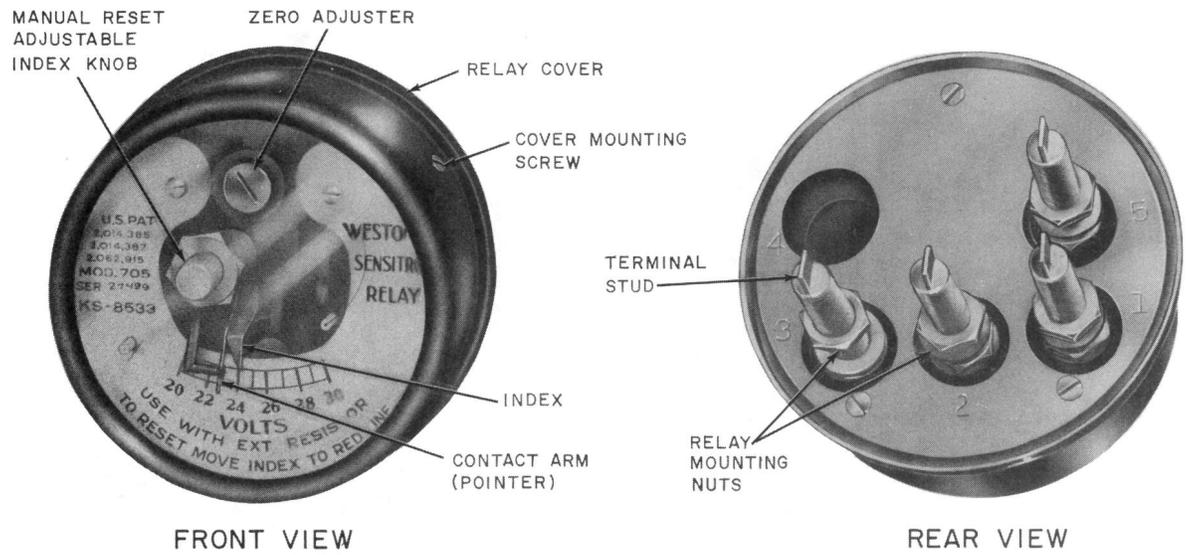

Fig. 1—Model 705 (surface case)—Single Contact—Adjustable Index Reset
- 1.11** *Weston Models (Fig. 1 through 7):*